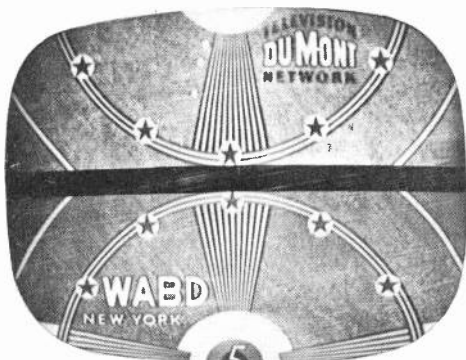

Fig 1-E. *Rolling pix vertically permits examination of blanking bar.*
**SERVICE:** Check adjustment of vertical size, linearity and centering controls when receiving program. Remove vertical-output tube. This will result in a horizontal white line. Adjust centering control until line is in vertical center of screen. Replace vertical-output tube and adjust vertical size and linearity controls for correct pix. Rotate vertical hold to allow pix to roll slowly. See Fig. 1-E. Blanking bar should not change thickness going from top to bottom.